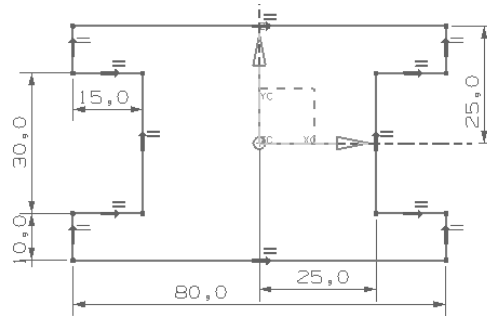

Figure 3-51 The outer profile after adding the required dimensions
3. Select the line 1; the current dimension of the line 1 is attached to the cursor. Now, you need to place the dimension at the required location. Click the left mouse button below the line 1 to place the dimension, refer to Figure 3-51. As you place the dimension; an edit box is displayed. Enter **80** in the edit box and press ENTER. Next, choose the **Fit** button from the **View** toolbar.
9. Exit the **Inferred Dimensions** tool by pressing the ESC key twice and then drag the dimensions to place them properly around the sketch, refer to Figure 3-51.